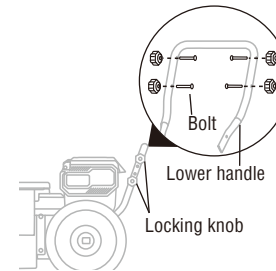

Fig. 2A
1. Loosen the four locking knobs that pre-assemble on the lower handle and remove the four locking knobs and bolts. (Fig.2A).